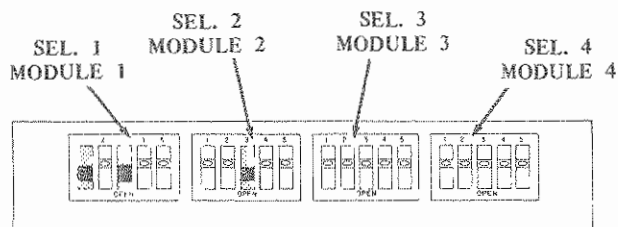
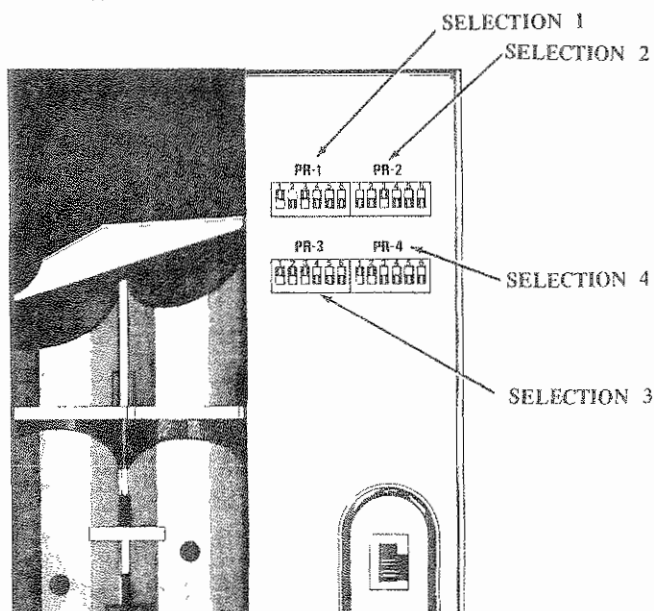
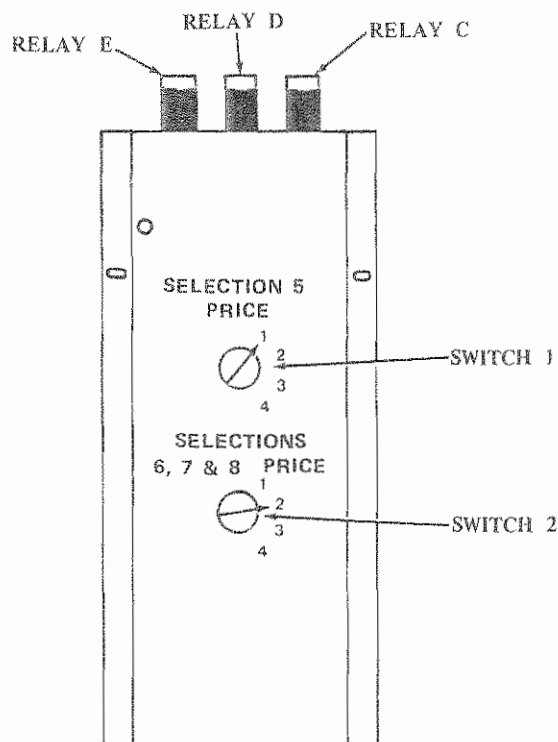

FIGURE 6
FIGURE 6A
FIGURE 7
Selections 1, 2, 3 and 4 on the vender will be priced directly by the four (4) price modules in the Coinco Changer (See Figure 6).
The vend price of Selections 1 thru 4 is set at its corresponding module by adding the value of the switches placed in the ON position. Example: Figure 6 shows SEL. 1 set for 25¢.
Selections 1, 2, 3 and 4 on the vender will be priced directly by the four (4) price switch modules in the Mars Changer (See Figure 6A).
The vend price of Selections 1 thru 4 is set at its corresponding module by adding the value of the switches placed in the ON position. Example: Figure 6A shows Selection 1 at 25¢, Selection 2 at 20¢, etc.
Selection 5 is priced with the knob on the Control Box Switch No. 1, Figure 7. The numbers represent the four coinage modules. Example: Figure 7 shows a price setting of 25¢, as related to Figure 6 Coinco and Figure 6A Mars.